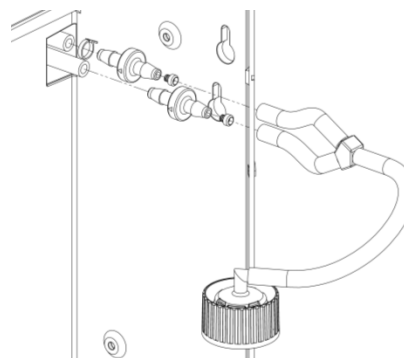

Figure 3
7. For SafeLink cap and tubing: secure the tubing over the exposed check valve barb (*Figure 3*)